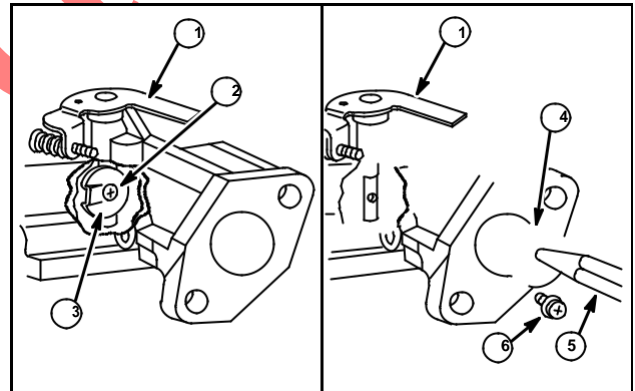

Fig. 84
2. Place new dust seal on throttle shaft (1) and install in carburetor body.
3. Install throttle plate (3) in carburetor body and install throttle plate screw (2), Fig. 84.
4. With pencil or similar tool (5), insert valve (4) and tighten Philips head screw (6), Fig. 84.